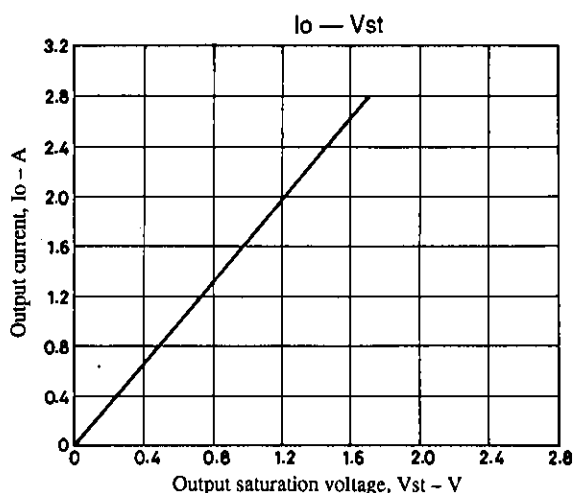

Fig. 8
The characteristic diagrams (typ) for I_{OH} and V_{st} , and I_{OH} and V_{df} are given in Figs. 8 and 9.
Referring to Figs. 8 and 9, each value for V_{st} and V_{df} is determined by expression (10) as follows :